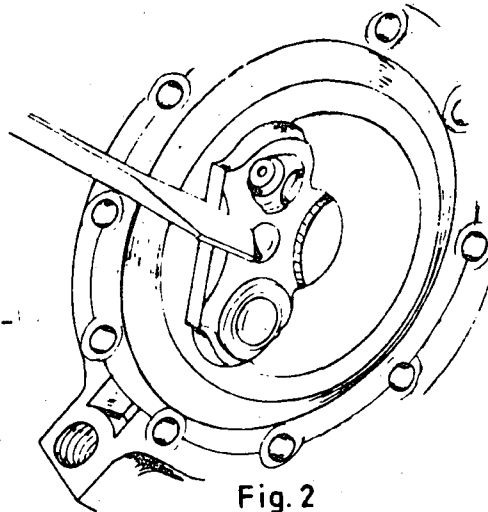

Fig. 2
- b) Remove the valves by removing the securing plate (fig. 2).